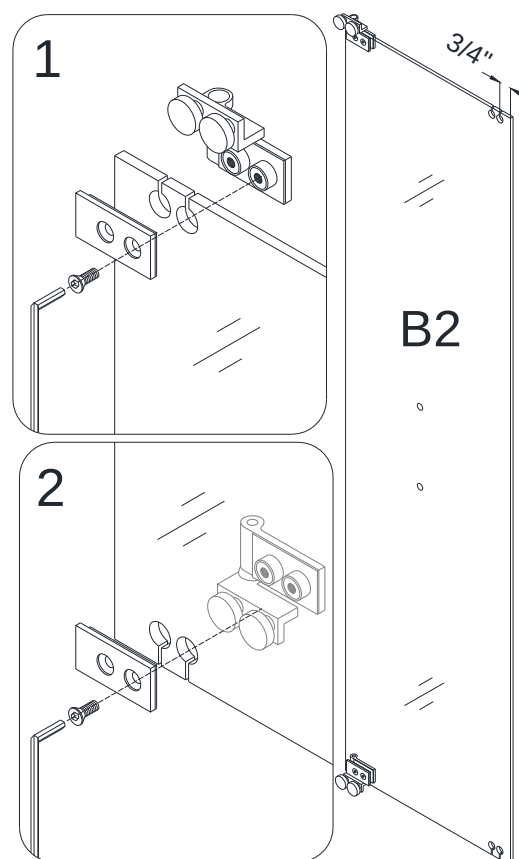
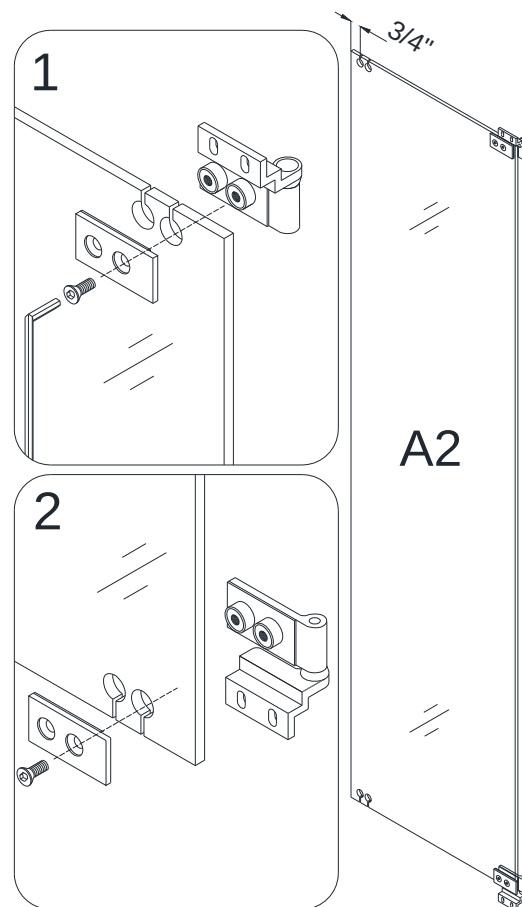
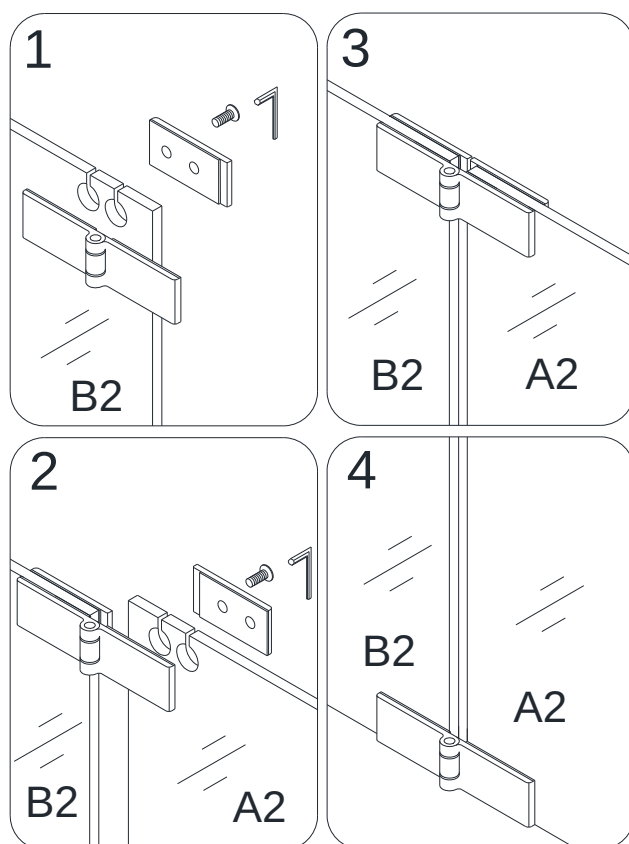
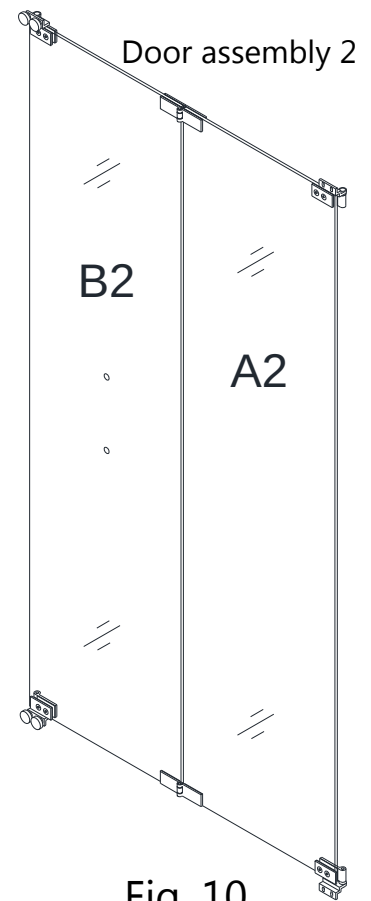

Fig. 7
Fig. 8
Fig. 9
Fig. 10
See Fig. 7 and Fig. 10 for details.
See Fig. 8 and Fig. 10 for details.
See Fig. 9 and Fig. 10 for details.
12. Slide the pre-installed **Door assembly 2** (that showing on Fig. 10) into the channel of the **Guide rails (03)** from the right side.